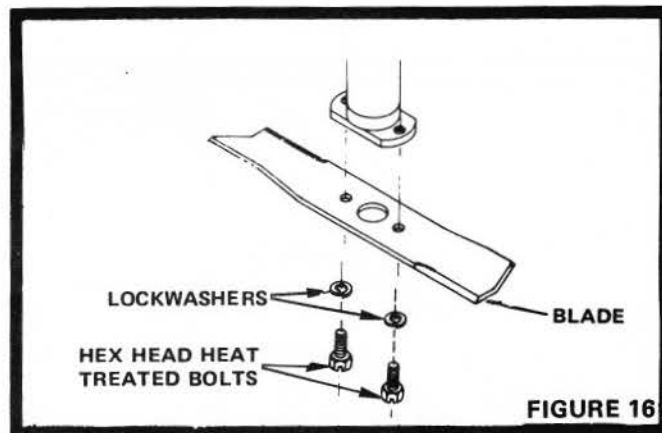

FIGURE 16
1. Remove the two Hex Head Bolts and Lockwashers (Fig. 16).